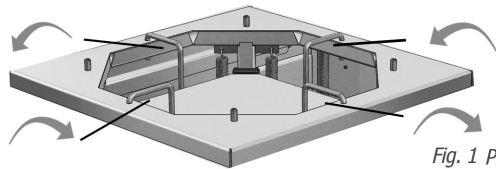
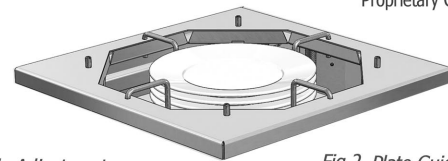

Fig. 1 Plate Guide Adjustment
Fig.2 Plate Guide Testing
**C) Setting Dispenser Plate Guides To Suit Plate Diameter.** If the dispenser is a heated model, ensure the unit is electrically isolated & remove the polycarbonate lid (if fitted). Lift up each of the plate guides & turn them outwards or inwards to allow the particular plate diameter to fit inbetween them (Fig. 1). The plates can be between 8"-12" (205mm-305mm) diameter. Test the plate guides are adjusted to suit the required plate diameter by placing a few inside the top of the dispenser (Fig. 2). The diameter is now set.